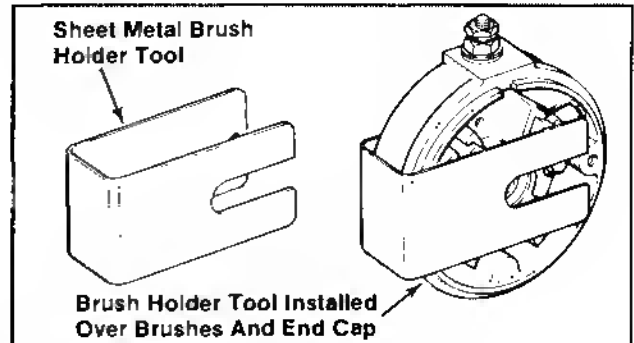

Figure 8-19. Brush Holder Tool.
NOTE: Use a brush holder tool to keep the brushes in the pockets. A brush holder tool can easily be made from thin sheet metal. Refer to Figure 8-19.
3. Install the brush holder tool to keep the brushes in the pockets of commutator end cap. Refer to Figure 8-19.